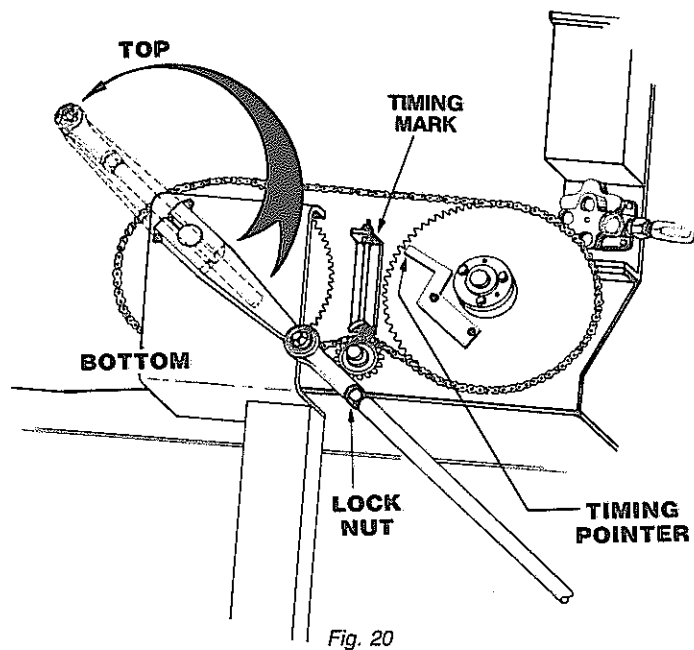

Fig. 20
5. Adjust the needle height by loosening the lock nuts on the needle yoke drive rods, see **Fig. 20**. Turn the rods to the right or left for the desired setting. Be sure both are adjusted for equal load at top dead center.